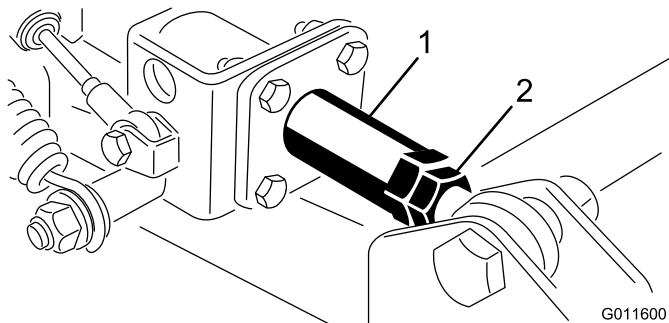

**Figure 7**
2. Mounting bolts, washers & locknuts (8)
- B. Place a square or straight edge against the deck weldment that contains the castor fork assembly (Figure 7). Do not use the caster fork assembly itself.
- C. Measure from the inset bead of the rim (not the outer edge of the rim) to the straight edge at two locations as indicated in Figure 7. Rim and paint irregularities make the outer edge an unreliable point of measure. These two measurements